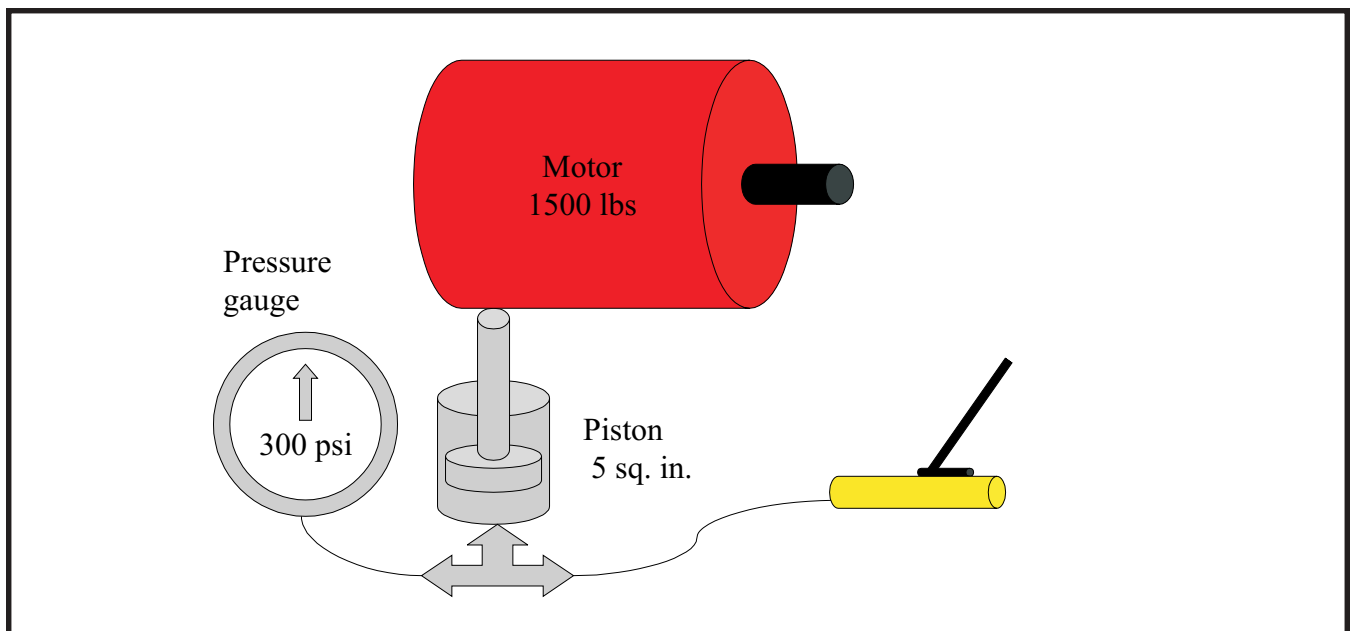

Figure 2. Hydraulic piston supports motor weight.
6. Continue to support the motor weight by maintaining the same weight on the spring scale. If a spring scale and/or overhead support is not available, then a hydraulic piston may be used underneath the motor. Reference Figure 2. (Contact the Frick Baltimore Parts Center for a piston type lifting kit, Ph:800-336-7264)